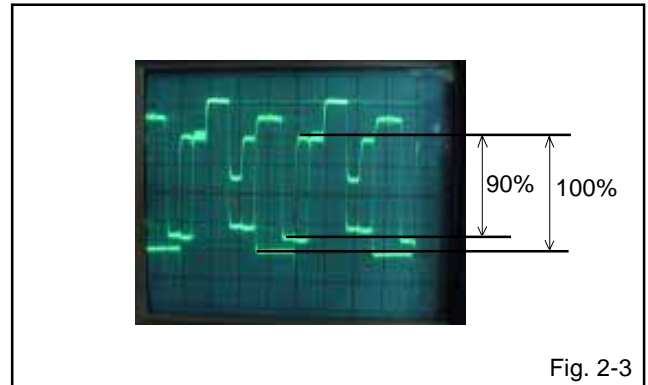

Fig. 2-3
6. Press the LEFT/RIGHT button on the remote control until the red color level is adjusted to  $90 \pm 5\%$  of the white level. (**Refer to Fig. 2-3**)